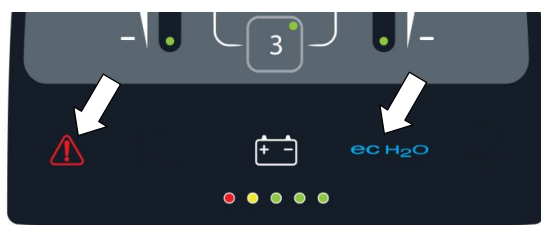

FIG. 45
7. If a machine fault is detected during operation, the service indicator will light up and begin flashing (Figure 45). See SERVICE INDICATOR CODES.